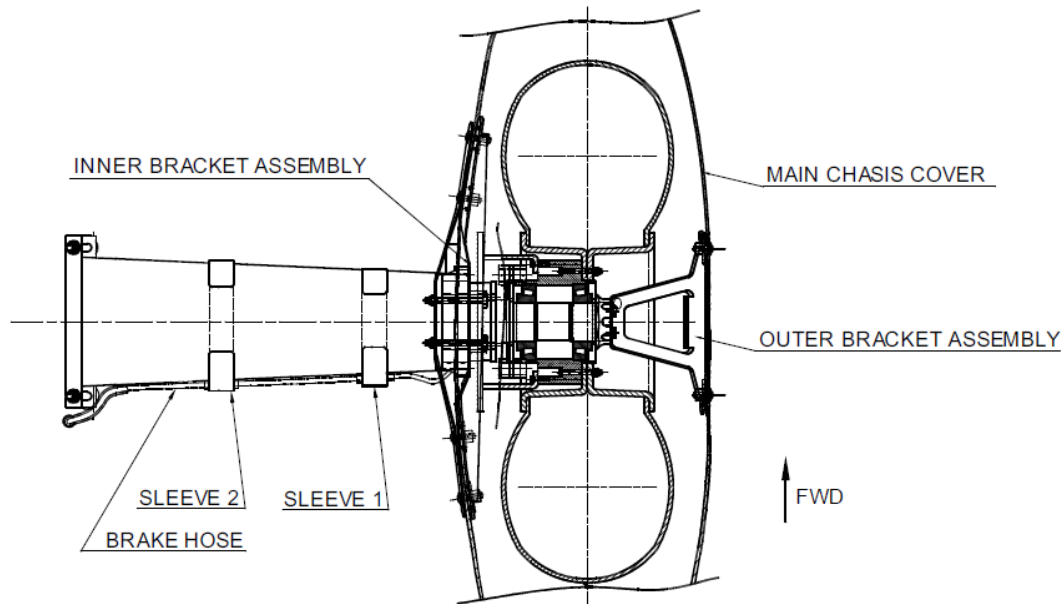
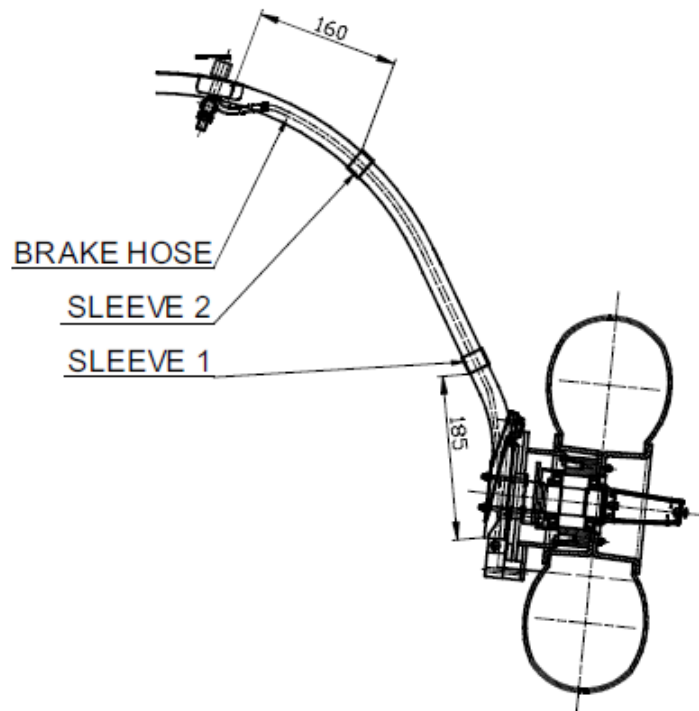

Fig. 3: Main gear leg brake hose holders and cover position
Fig. 4: Main gear leg sleeve position
- 9) Adjust the brake hose as shown (see Fig. 3 and Fig. 4).